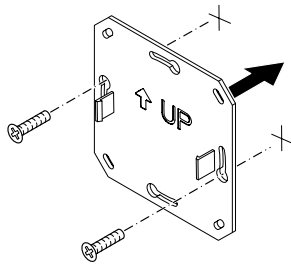

Figure 3 - mounting plate
2. If using screws: fasten the mounting plate using the screws (fig .3).